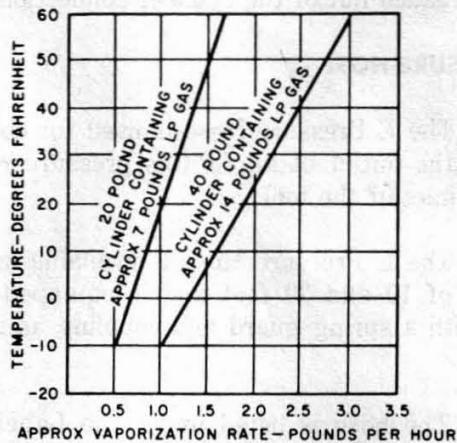

Fig. 7—Vaporization Rate—One-Third Full
6.04 The approximate vaporization rate of LP-Gas Cylinders (each cylinder one-third full of LP-Gas at various temperatures) is shown in Fig. 7.